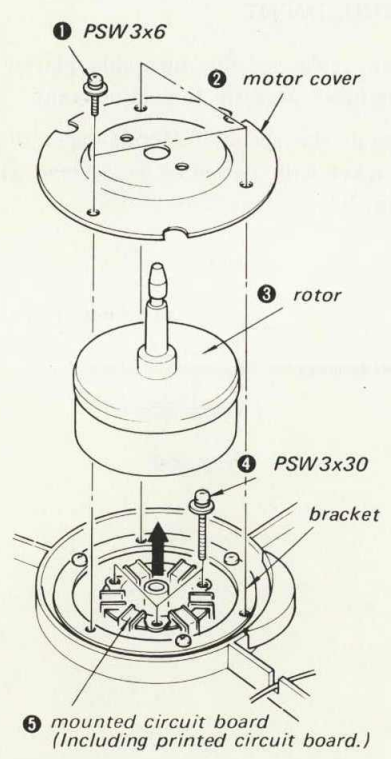

Fig. 3-6.
- Remove the motor cover, rotor and mounted circuit board as shown in Fig. 3-6.